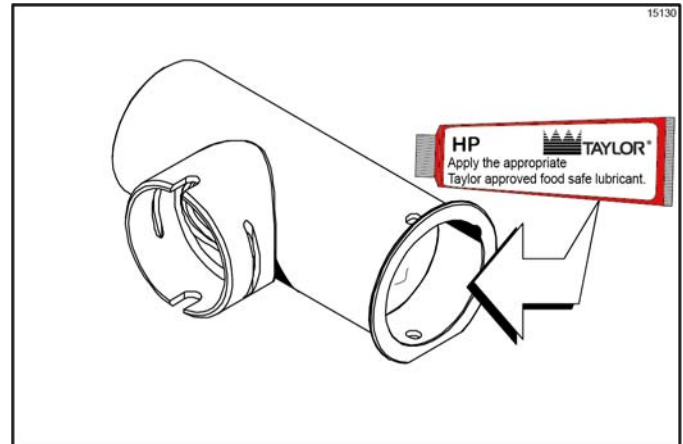

Figure 6-36
3. Apply a thin layer of lubricant to the inside of the pump cylinder at the retaining pin end. (See Figure 6-36.)